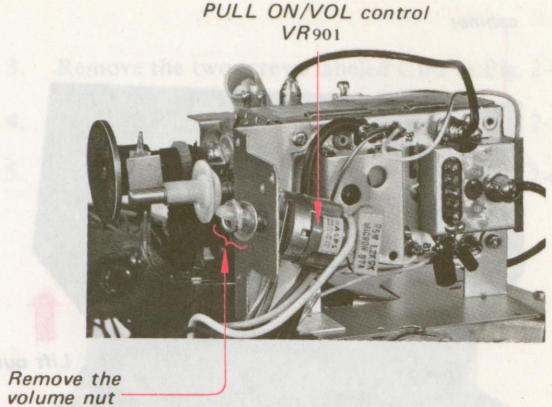

Fig. 2-14. Volume control removal, Step 8
8. Remove the Volume Nut and then replace the PULL ON/VOL control as shown in Fig. 2-14.